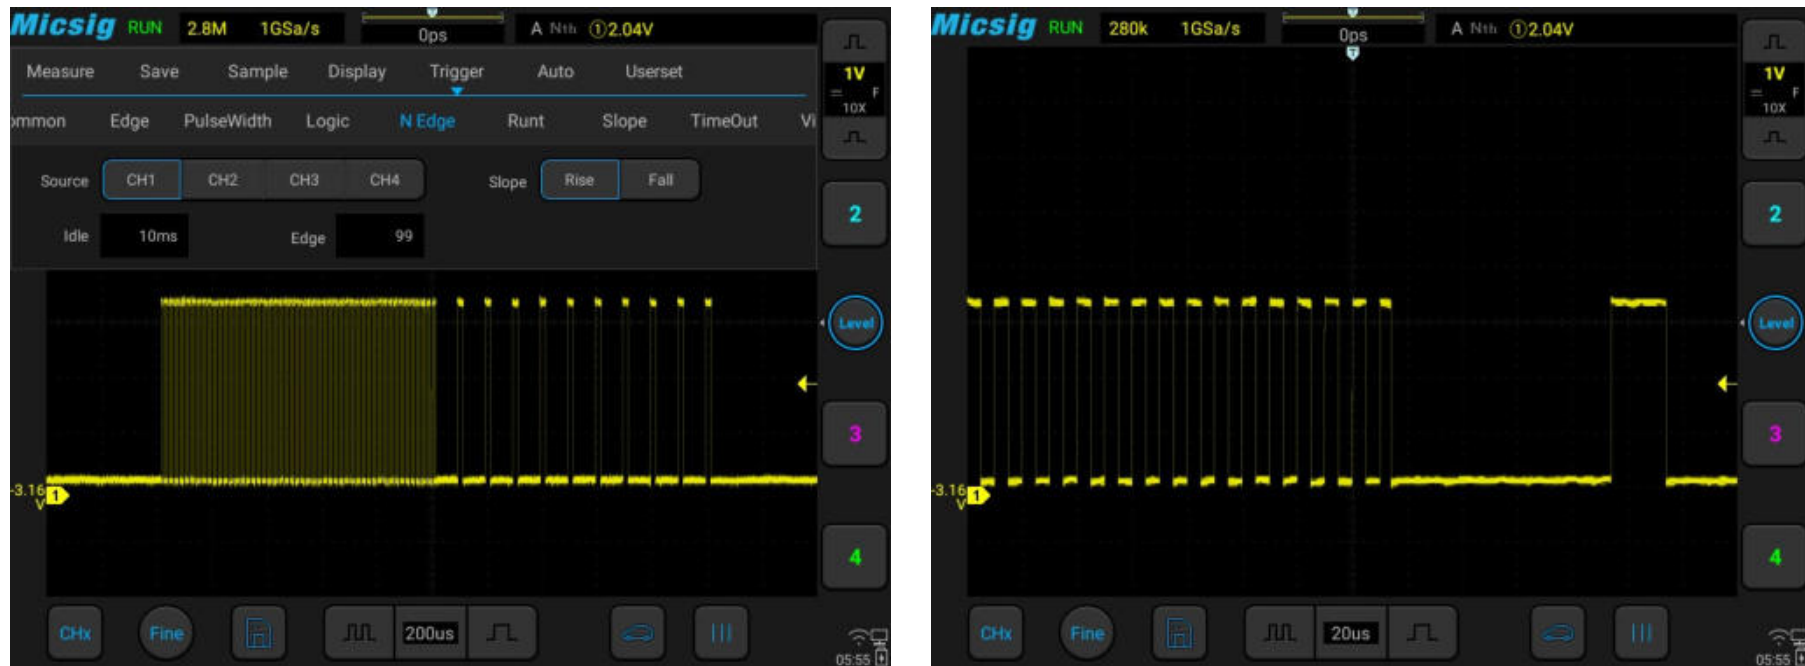

Figure 7-23 Nth Edge Trigger Menu
- 1) Tap “Trigger” on the main menu to open the trigger menu, select Nth edge trigger in the trigger type, and set the Nth edge trigger as follows, as shown in Figure 7-23: